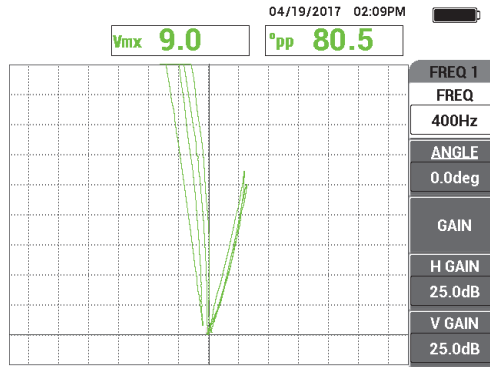

Figure 5-213 The scan of the two grooves
2. Slowly scan the tube until the 40 % ID and 60 % OD flaws are displayed. When the groove signals are visible on the NORTEC 600 screen, press the FREEZE key (❄) [see Figure 5-213 on page 280].